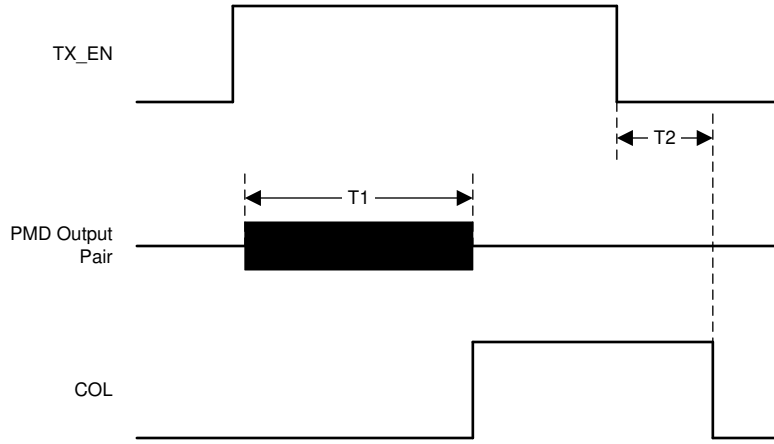

图 7-15. 10BASE-Te Jabber Timing
- (1) Ensured by production test, characterization or design.
(2) See 图 7-15.